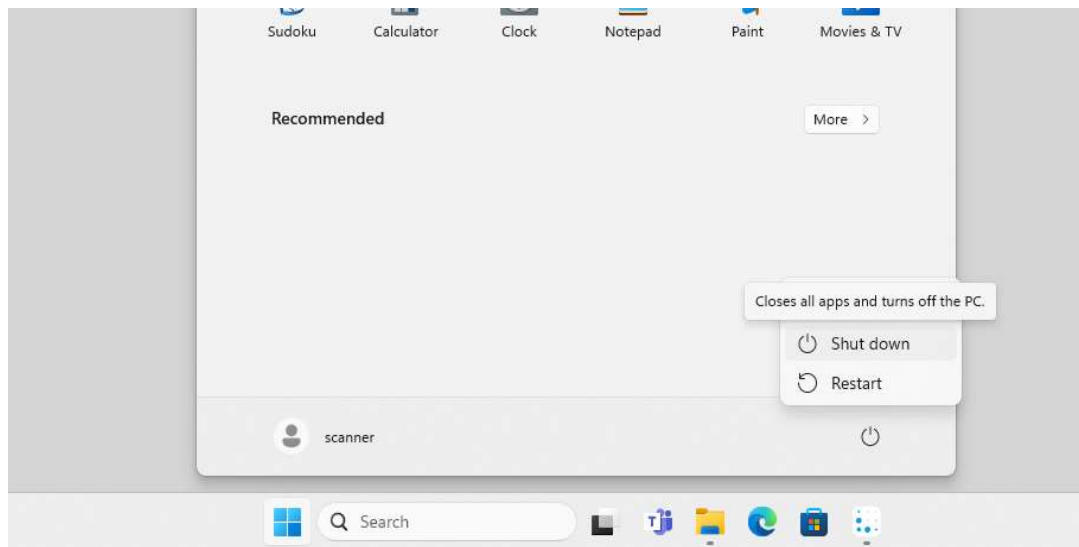

Figure 6-33 Turning off SCIZYS S1.
2. Click the **Windows** button then **Power icon** and **Power off** (Figure 6-33).
1. Turn off SCIZYS by clicking the **Windows Button** then **Power** and **Shut Down** (*Figure 6-33*). Wait until SCIZYS S1 is fully shut down.
1. Turn off SCIZYS by clicking the **Windows Button** then **Power** and **Shut Down** (*Figure 6-33*). Wait until SCIZYS S1 fully shuts down.
1. Turn off SCIZYS by clicking on the **Windows Button** then **Power** and **Shut Down** (*Figure 6-33*). Wait until SCIZYS S1 fully shuts down.